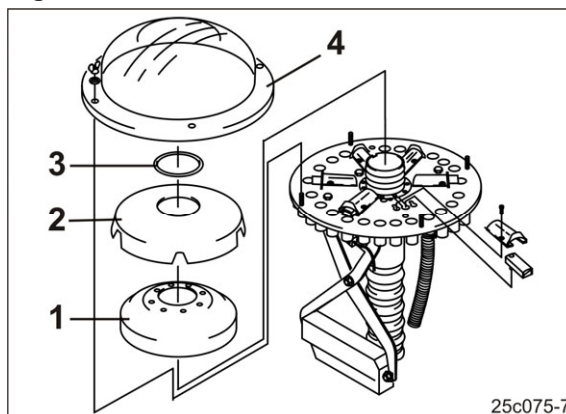

Fig. 232
13. Install the foam insert (Fig. 232/1).
14. Install the inner distributor cover (Fig. 232/2).
15. Install the ring (Fig. 232/3).
16. Install the outer distributor cover (Fig. 232/4).